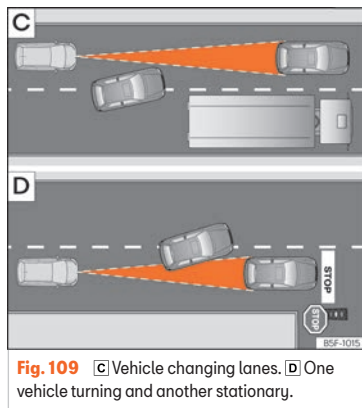

Fig. 109 [C] Vehicle changing lanes. [D] One vehicle turning and another stationary.
- Vehicles that move into your lane, a short distance from your vehicle >>> Fig. 109 [C].
The ACC does not react to stationary vehicles. If, for example, a vehicle detected by the ACC turns or moves over and there is a stationary vehicle in front of it, the ACC will not react to the second vehicle >>> Fig. 109 .